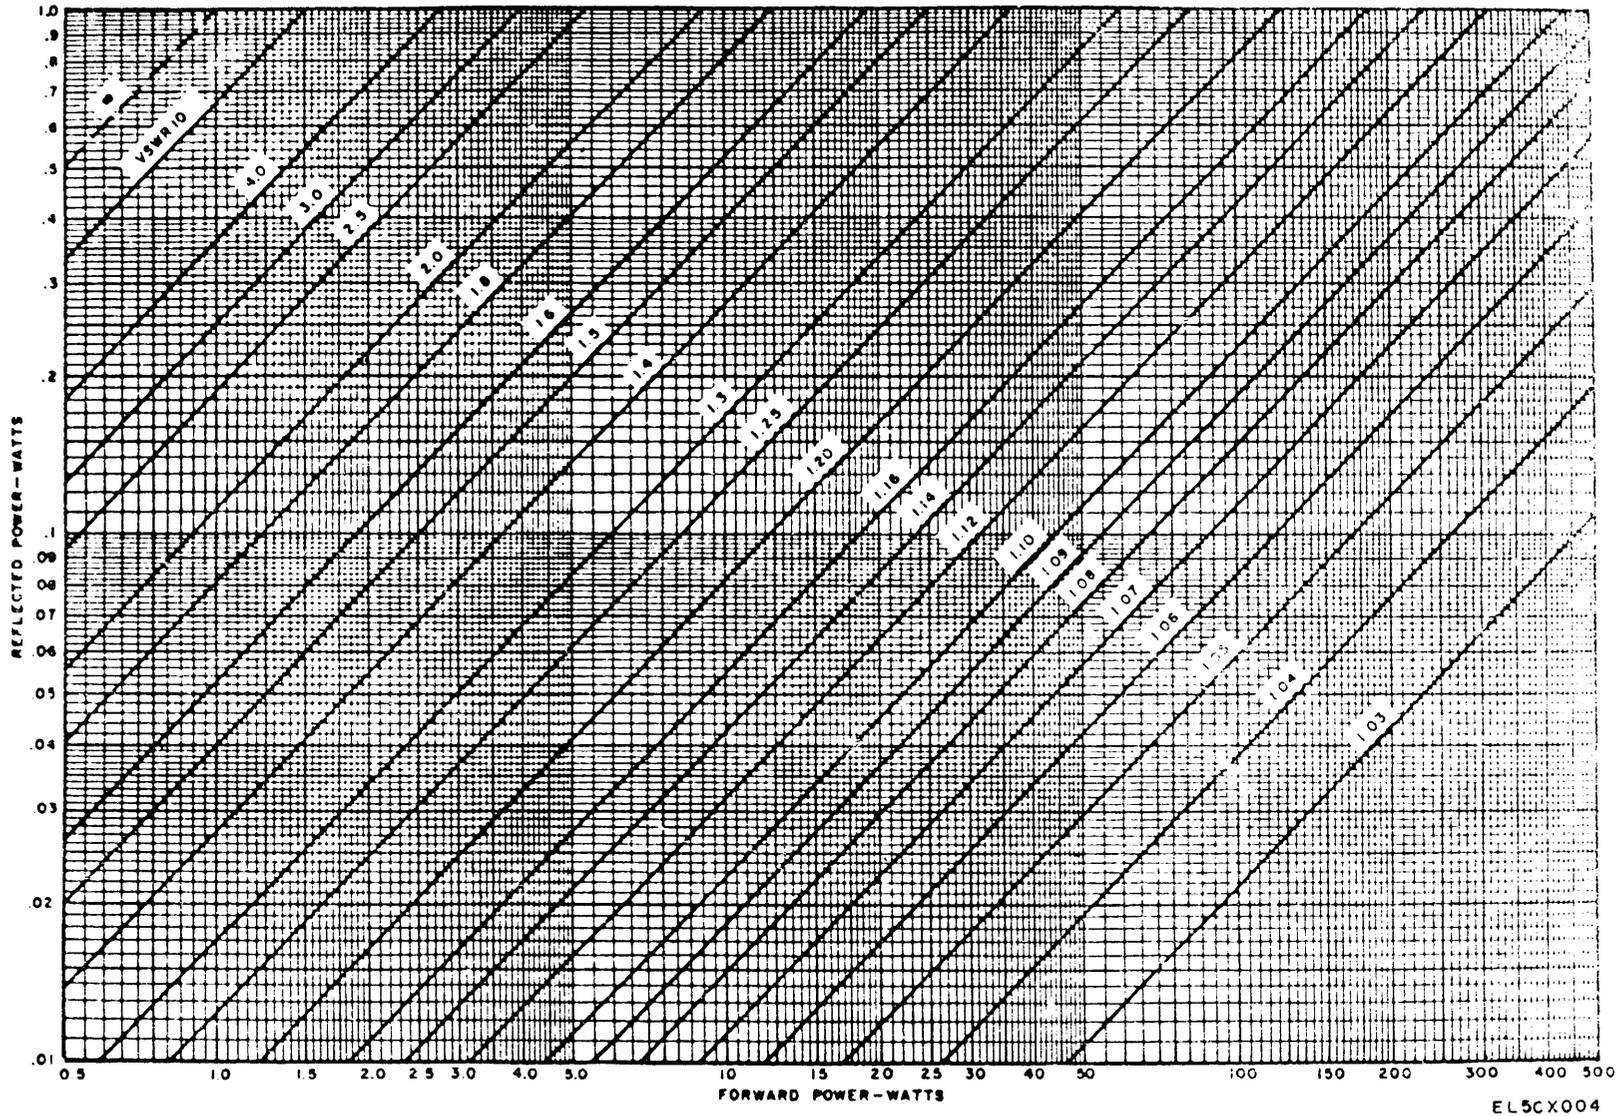

Figure 3-2. Power values versus VSWR (reflected power 0.01 to 1.0 watts).
*a.* The TS-3754/U is designed to provide forward and reflected power readings in watts. To convert these power reading to a voltage standing wave ration (VSWR) reading, use the graphs provided in figures 3-2 and 3-3.
*c.* Refer to the appropriate graph (fig. 3-2 or 3-3) to convert these readings to VSWR. The graphs convert directly to VSWR values.
Example: The forward power reading is 35 watts (horizontal reading on figure 3-2). Reflected (reverse) power reading is 0.08 watt (vertical reading). Bisecting the two readings at the VSWR diagonal line indicates VSWR of 1.10.